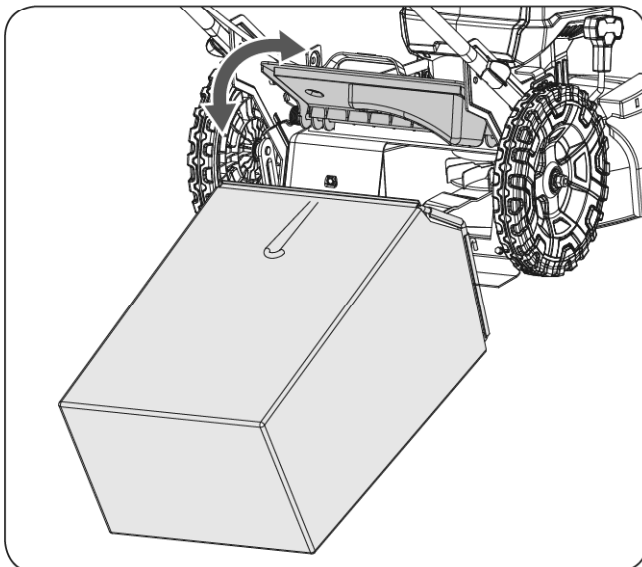

Figure 4
2. Slip the hooks in the grass catcher onto the rotating shaft of the rear discharge door. Let go of rear discharge door so that it rests on the grass catcher. (See *Figure 4*)